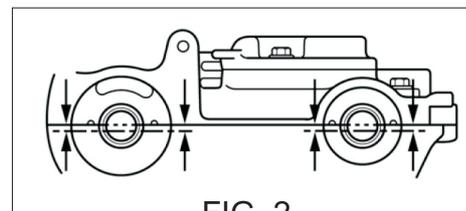

FIG. 2
- ① The next step is to drain the coolant circuit and turn the crankshaft until cylinder n°1 is positioned at TDC.
- ② Disassembly rear covers for camshaft and make sure camshafts are aligned [FIG. 2].